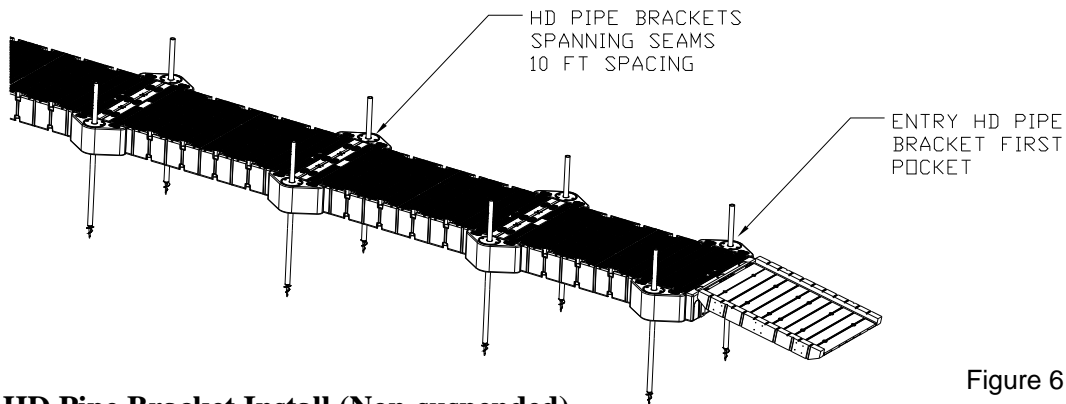

Figure 6
- To be used for suspended dock systems with water depths less than 17ft, weight loading max of 24 lb/sqft, and maximum suspended height of 7 ft above soil bed (see figure 6) (**Note: maximum weight loading assumes that pipes have been properly installed**)